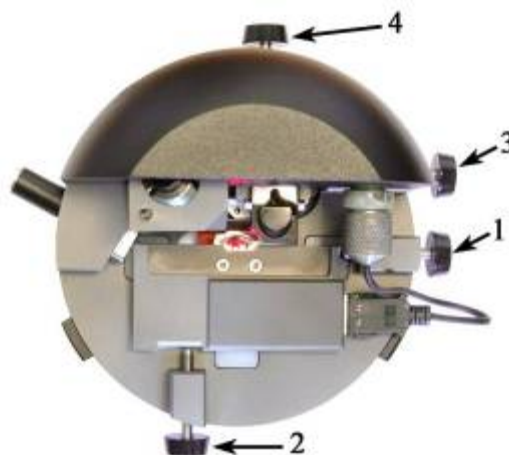

Fig. 2-20. Measuring head
3. Turn screw 2 (Fig. 2-20)  $10\div 25^\circ$  **clockwise** (at this the laser spot moves towards the chip) until some **Laser** signal appears.
7. Turn photodiode adjustment screws 3 and 4 (Fig. 2-20) center the laser on the photodiode indicator. The values of **DFL** and **LF** signals shall be close to zero while the magnitude of the total **Laser** signal shall remain fairly large.